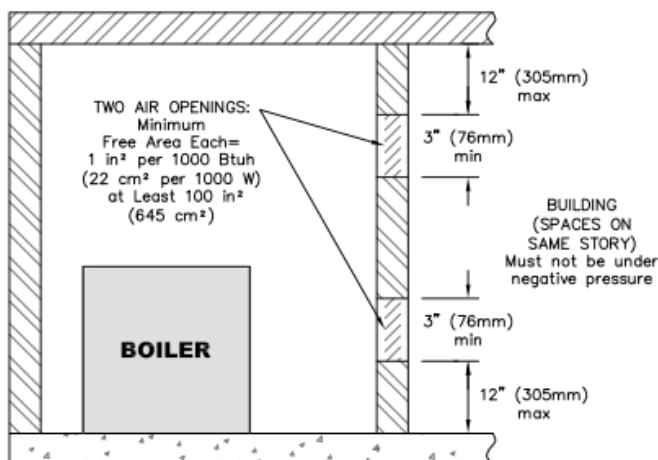

Figure 1.2: Air Openings – All Air from Indoors on the Same Floor
a. **Combining Spaces on the Same Floor:** Provide two permanent openings communicating with additional spaces that have a minimum free area of 1 in² per 1000 Btu/hr (22 cm² per 1000 W) of the total input rating of all gas fired equipment but not less than 100 in² (645 cm²). One opening is to begin within 12 inches (305 mm) from the top of the space and the other is to begin within 12 inches (305 mm) from the floor. The minimum dimension of either of these openings shall be 3 inches (76 mm). See Figure 1.2 for an illustration of this arrangement.